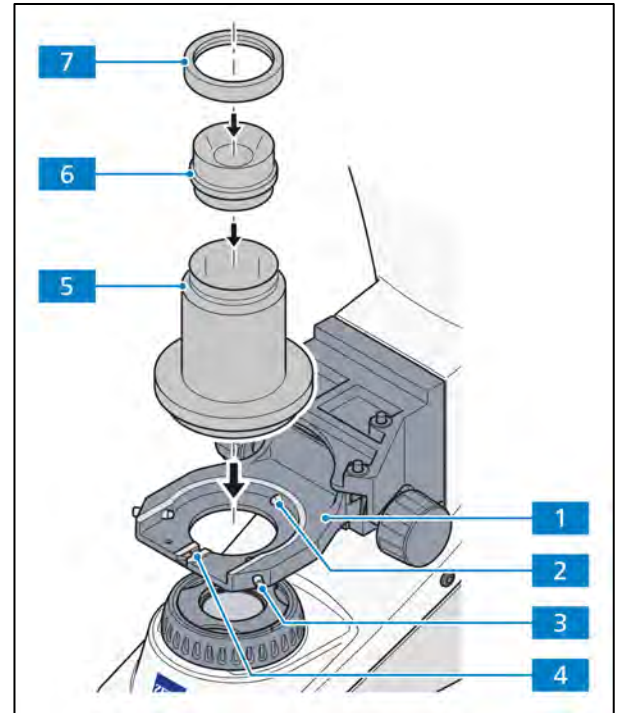

Fig. 3-14 Mounting the darkfield condenser
- Insert the darkfield condenser (Fig. 3-14/6) in the condenser holder Z (Fig. 3-14/5) and screw on the fastening ring (Fig. 3-14/7)
- Push the condenser holder Z (Fig. 3-14/5) against the spring box (Fig. 3-14/2) into the condenser carrier (Fig. 3-14/1).
- Tighten both centering screws (Fig. 3-14/3) on the condenser carrier (Fig. 3-14/1) until they grip the dovetail ring of the condenser holder Z (Fig. 3-14/5).